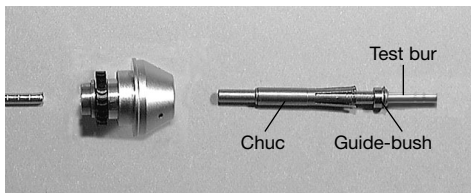

Fig.19
- ③ When the rotor nut is loose, push out the chuck carefully with the dummy bur or the shank of the bur from the back of the cartridge, the Guide-bush and the chuck will come out. (Fig.19)